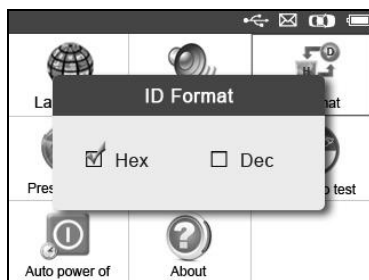

Figure 2.5
- 2) From **ID Format** screen, use the **LEFT/RIGHT** scroll button to select the desired format of ID. (Figure 2.5)